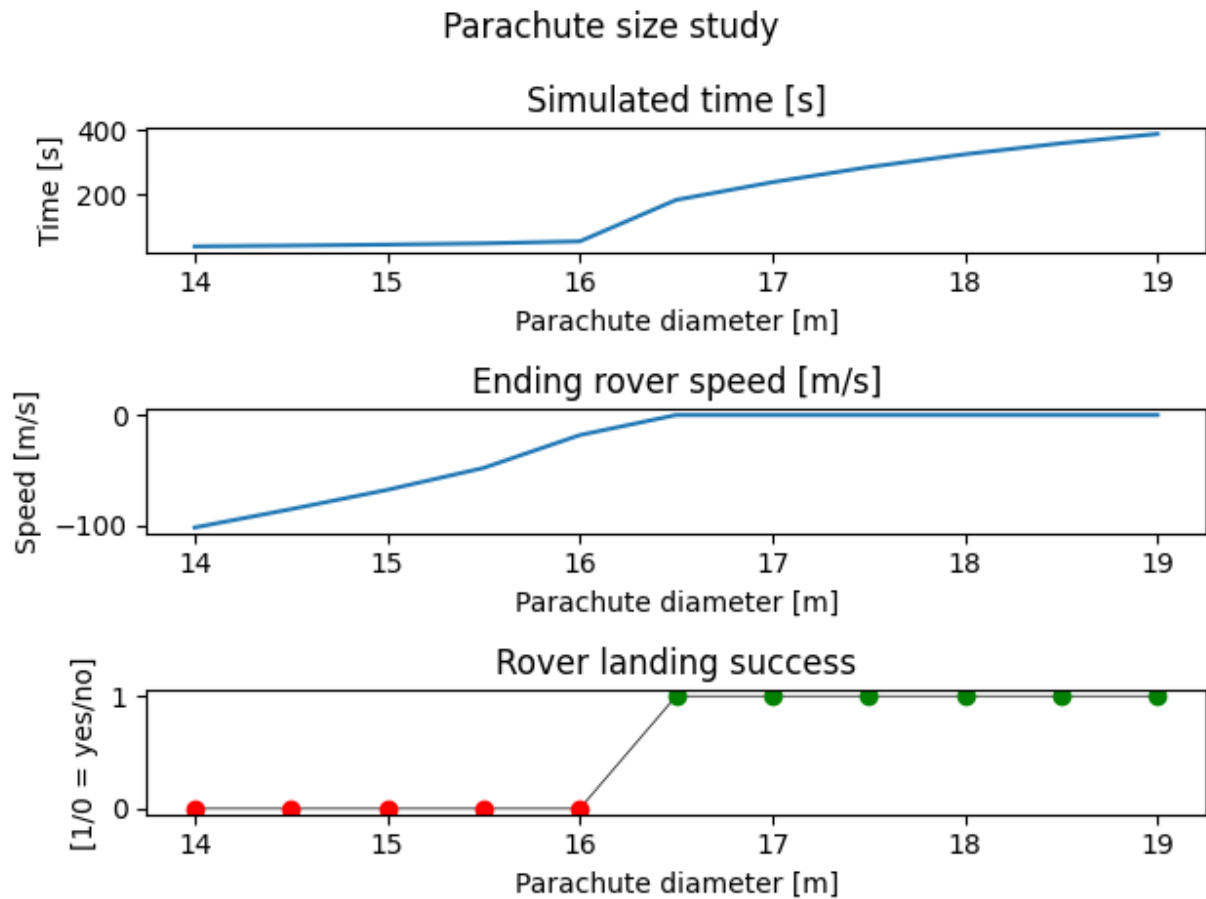
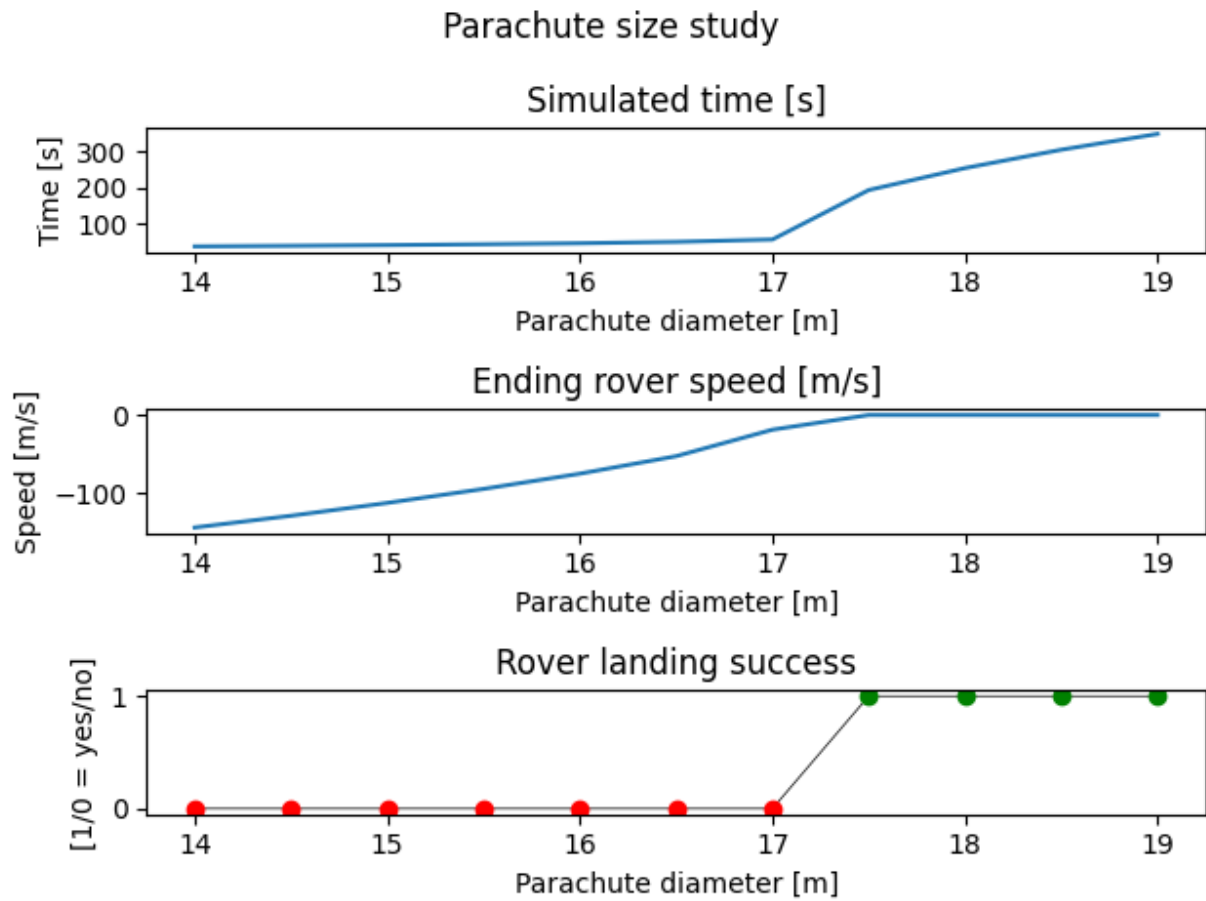

Figure 4: Parachute size study using the old drag model
Figure 5: Parachute size study using the new drag model
2. The parachute diameter recommendation does require modifications after accounting for the updated drag model. In the original model (seen in Figure 4), a diameter of 16.5 meters was recommended to ensure a successful landing. After accounting for the new drag model (seen in Figure 5), the diameter recommendation increased to 17.5 meters to ensure a successful landing.